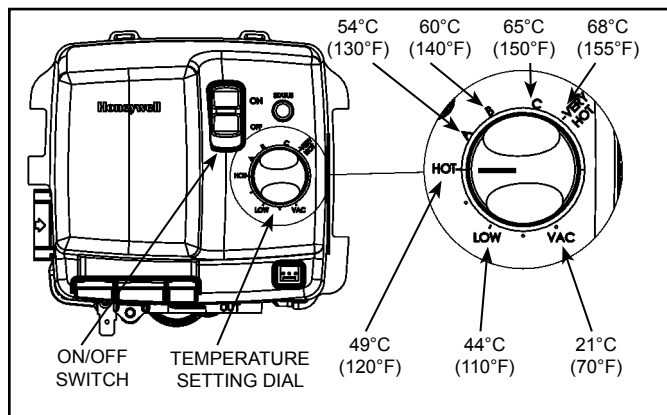

Figure 38.
This water heater is equipped with an adjustable thermostat to control water temperature (see Figure 38). Hot water temperatures required for automatic dishwasher and laundry use can cause scald burns resulting in serious personal injury and/or death. The temperature at which injury occurs varies with the person's age and time of the exposure. The slower response time of children, aged or disabled persons increases the hazards to them. Never allow small children to use a hot-water tap, or to draw their own bath water. Never leave a child or disabled person unattended in a bathtub or shower.
The thermostat settings on the gas control valve are shown in Figure 38.
1. Turn the thermostat on the gas control to the lowest setting. If the heater is running, wait for it to shut down (see Figure 38).